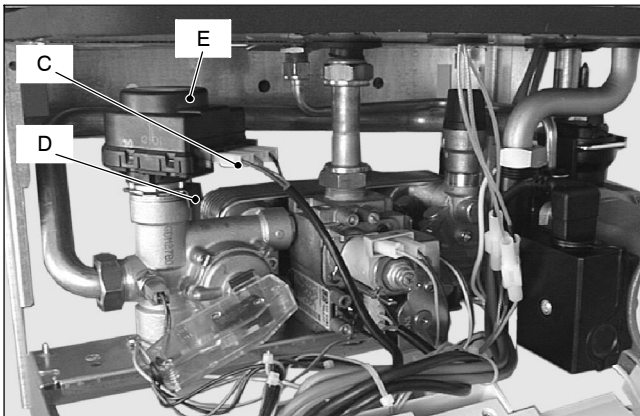

Fig. 4
- 2 Disconnect the connectors *C* (Fig. 4).